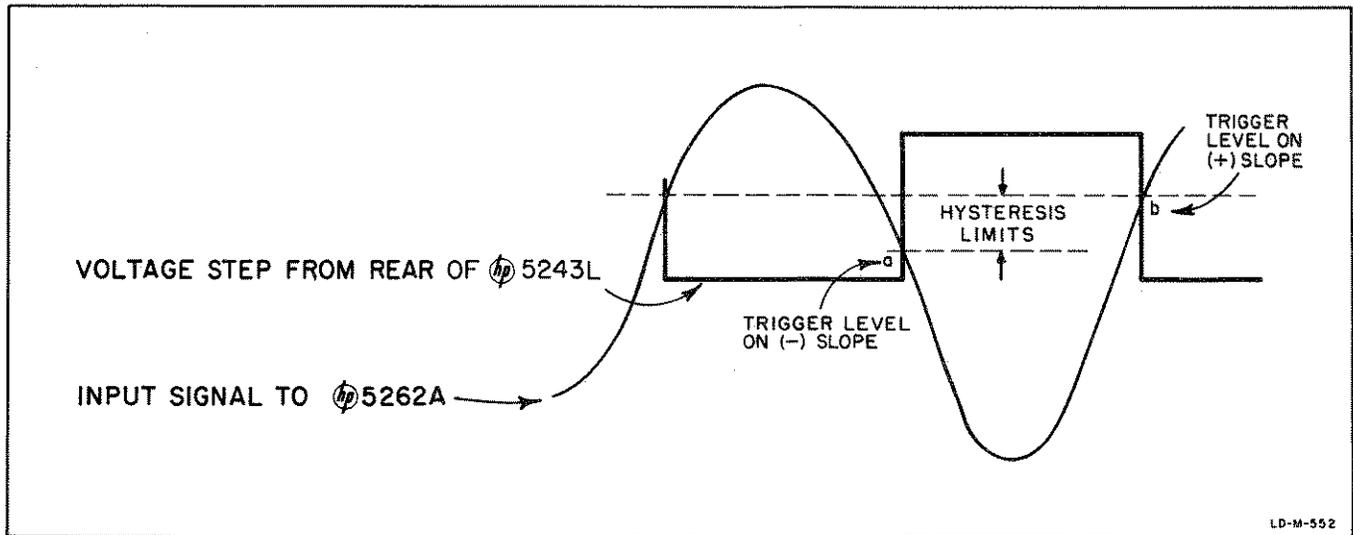

Figure 2-2. Oscilloscope Display of Trigger Levels (front panel slope control set to neg.)
h. Display on the oscilloscope will be similar to that shown in figure 2-2.